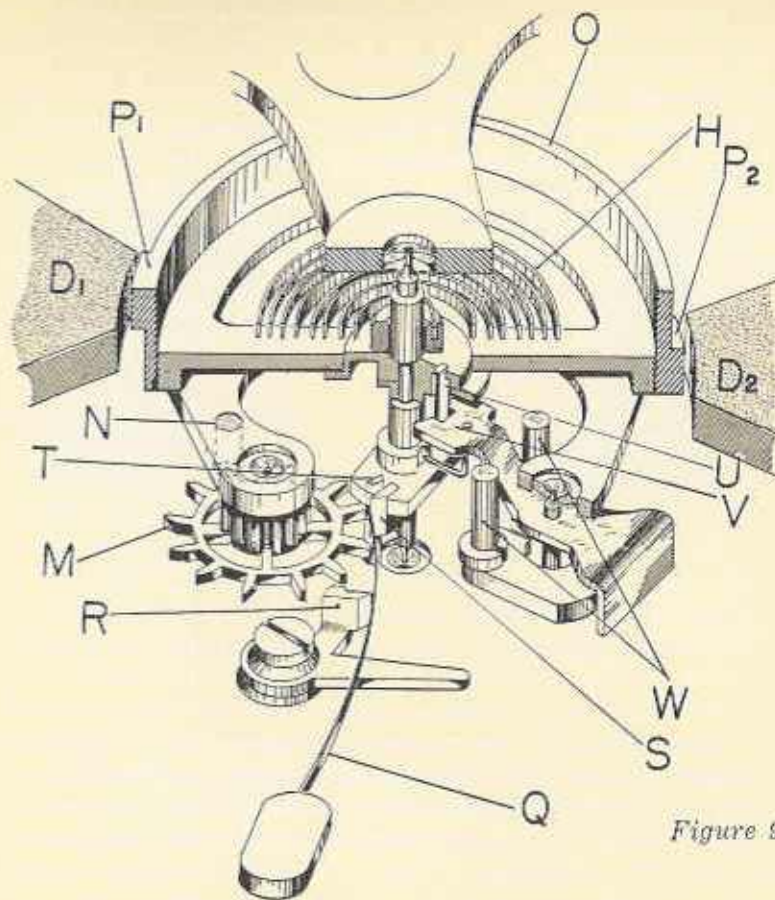

Figure 9
FIGURE 9 shows a general view of the balance unit and should help to fill in some additional details of operation and adjustment.
Figure 9. A general view of the balance movement. The outer rim and horns of the balance (P1 and P2) are lined with Mumetal, an alloy of high magnetic permeability which allows a greater attraction by the electro-magnetic stators (D1 and D2).
by the contact cam (S). The balance is therefore impelled or pulled in the clockwise direction only. If the balance had an amplitude of over 365 degrees, or just over one full turn, the contact cam jewel (S) would, in the same cycle, again push the spring against the contact lever, creating a one-way motor and causing much damage to the hairspring (H) and very erratic timing. To prevent this over-amplitude of the balance, a traditional fork and roller jewel with safety roller are used. In Figure 9, the amplitude control roller jewel and the safety roller with its crescent, below, are identified by the letter U. The fork and guard finger (V) pivots between two magnetic banking pins (W) which keep the fork against either of the pins, depending on the direction in which the balance is turning. Thus, should the balance develop an over-motion, or very high amplitude, the roller jewel (U) will merely rebound on the outside of the fork's horns.
Figure 12 shows the movement with the train and balance bridges and battery receptacles removed. The count wheel, the contact spring, the regulating contact lever and the amplitude limiting fork can be seen. Compare this with Figure 9. Notice the stationary electrical coils and their stators which flank the balance. Figure 13 shows the same disassembly from the dial side, with the sweep second, minute and hour hands in place. You can see that the minute wheel teeth are bevelled so that they will mesh easily with the arbor's hand-setting wheel during the hand-setting operation. The hand-setting wheel also has bevelled teeth to aid in engagement.